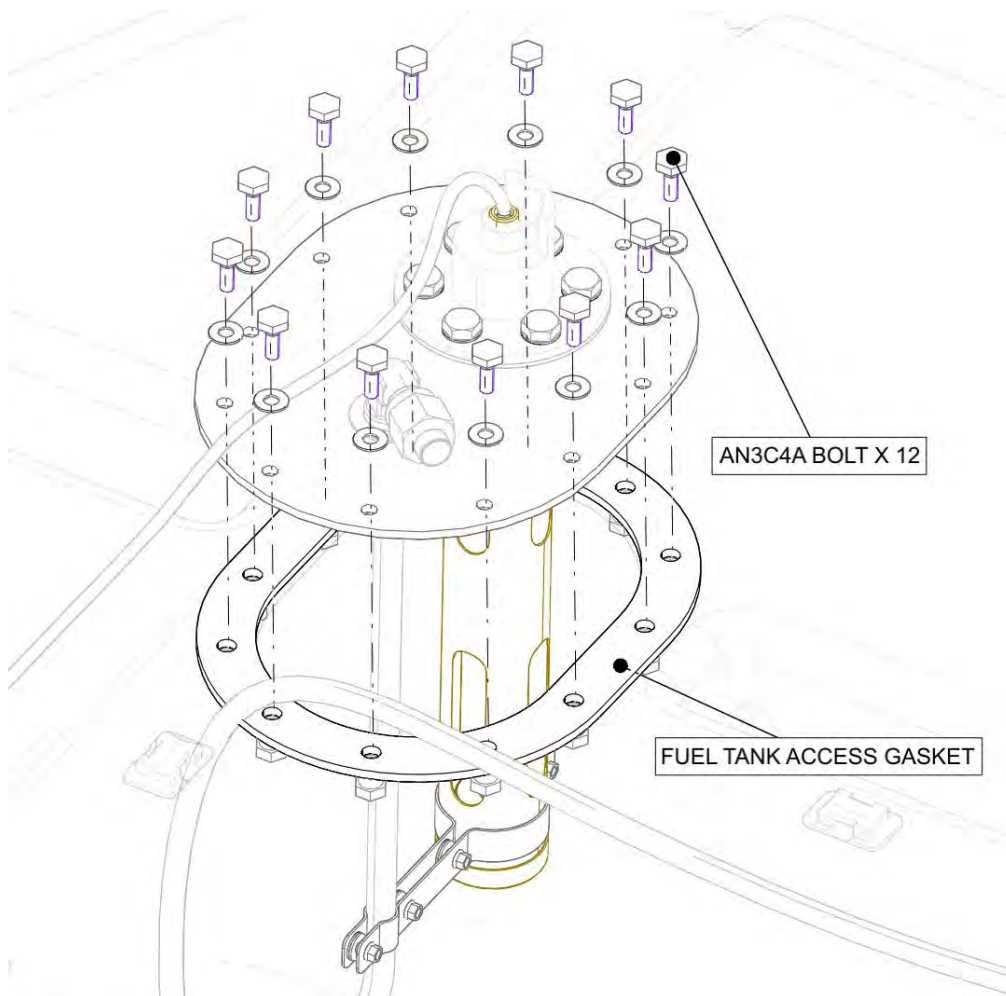

FIGURE 14-90
- a. Remove 12 bolts and washers from the Fuel Tank Access Plate. See Figure 14-90.